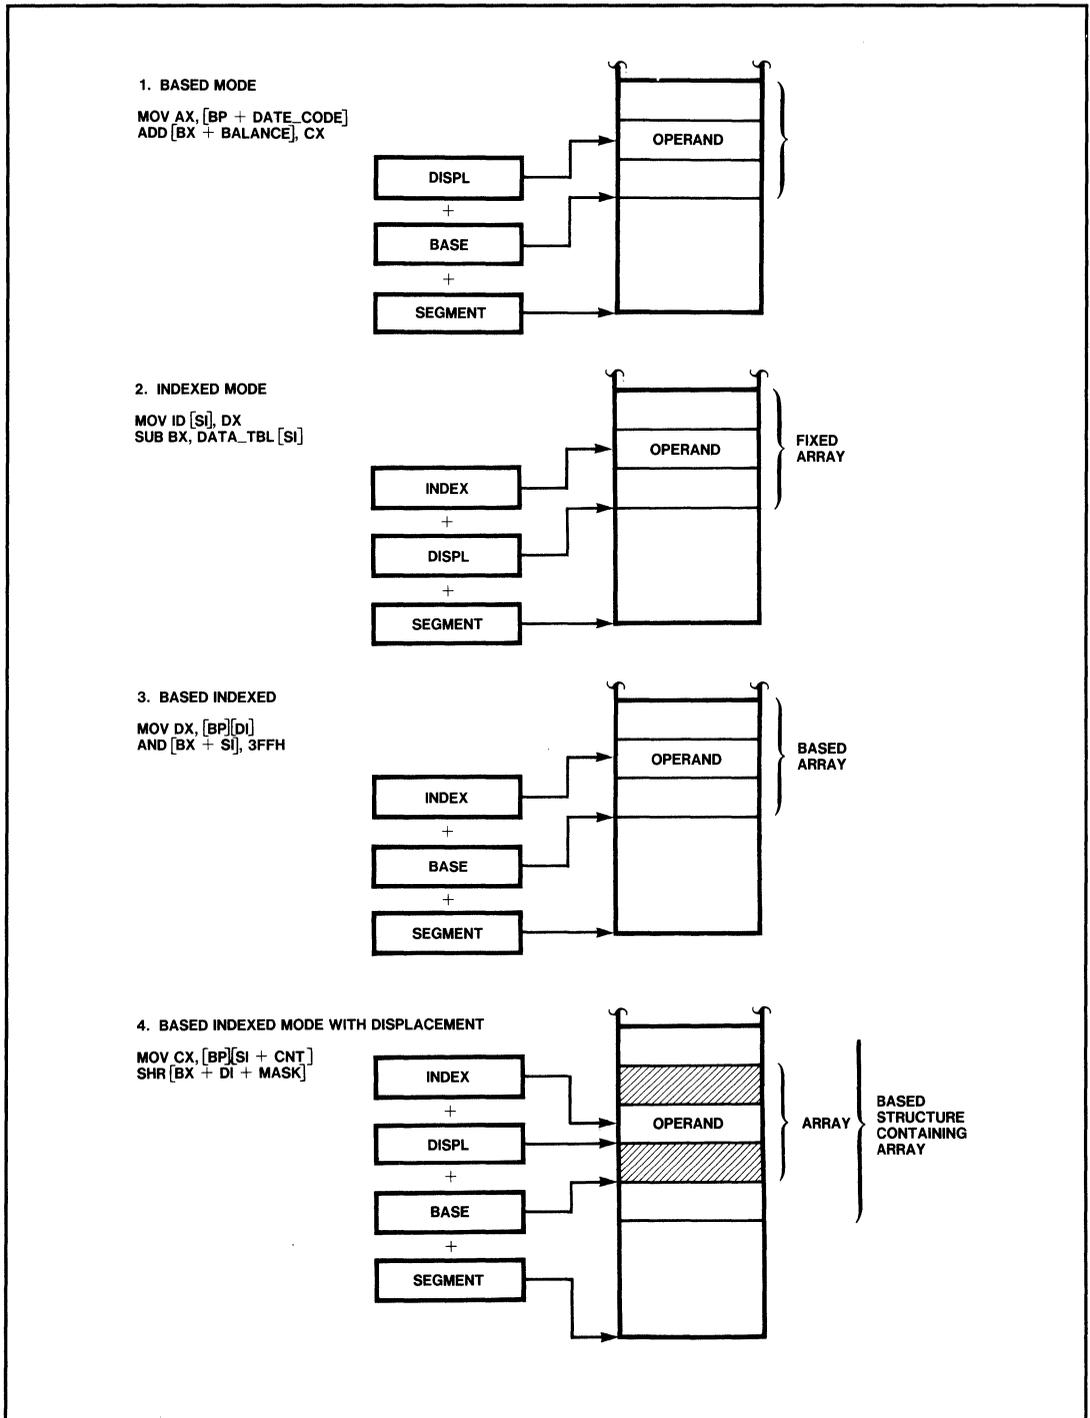

Figure 2-13. Complex Addressing Modes
The following four modes are used for accessing complex data structures in memory (see figure 2-13):
- **Based Mode.** The operand is located within the selected segment at an offset computed as the sum of the displacement and the contents of a base register (BX or BP). Based mode is often used to access the same field in different copies of a structure (often called a record). The base register points to the base of the structure (hence the term “base” register), and the displacement selects a particular field. Corresponding fields within a collection of structures can be accessed simply by changing the base register. (See figure 2-13, example 1.)
array whose starting location is fixed at translation time). The displacement locates the beginning of the array, and the value of the index register selects one element. Since all array elements are the same length, simple arithmetic on the index register will select any element. (See figure 2-13, example 2.)
- **Based Indexed Mode.** The operand is located within the selected segment at an offset computed as the sum of the base register’s contents and an index register’s contents. Based Indexed mode is often used to access elements of a dynamic array (i.e., an array whose base address can change during execution). The base register points to the base of the array, and the value of the index register is used to select one element. (See figure 2-13, example 3.)
- **Based Indexed Mode with Displacement.** The operand is located with the selected segment at an offset computed as the sum of a base register’s contents, an index register’s contents, and the displacement. This mode is often used to access elements of an array within a structure. For example, the structure could be an activation record (i.e., a region of the stack containing the register contents, parameters, and variables associated with one instance of a procedure); and one variable could be an array. The base register points to the start of the activation record, the displacement expresses the distance from the start of the record to the beginning of the array variable, and the index register selects a particular element of the array. (See figure 2-13, example 4.)